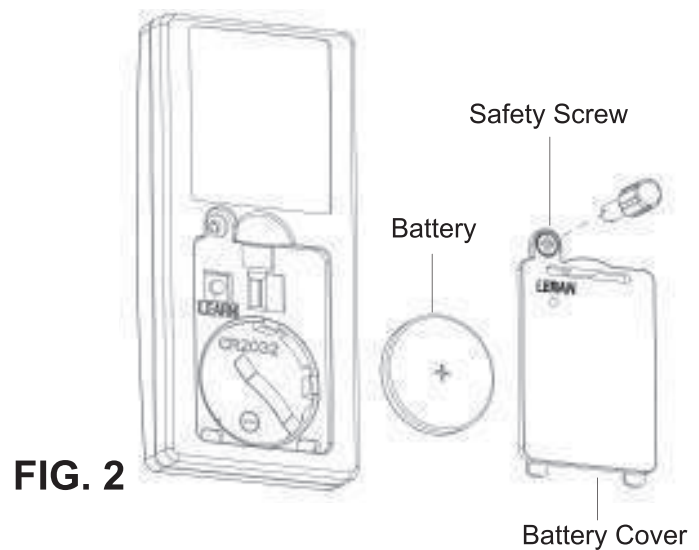

FIG. 2
Step 1. To remove or replace the CR2032 3V button/coin cell battery, loosen the safety screw and remove the battery cover from the back of the transmitter to access the battery compartment. (Fig. 2)